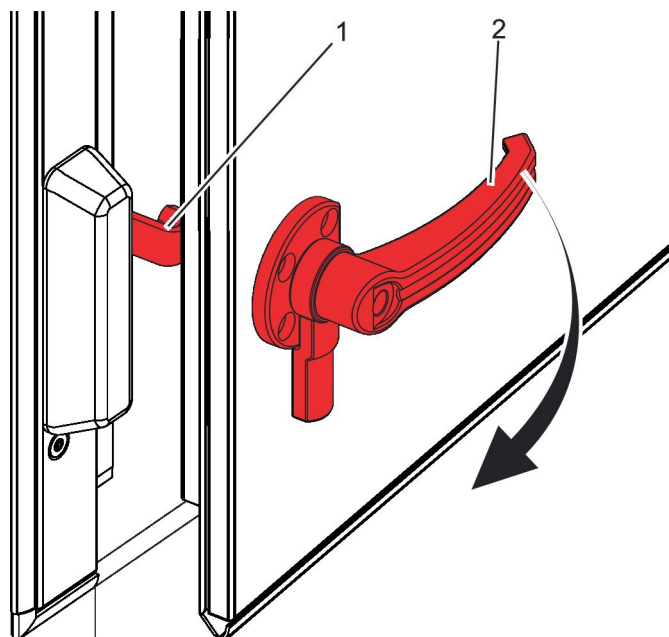

Fig. 19: Releasing the safety catch
3. ▶ Turn the door handle (Fig. 19 /2) clockwise by 90° .
⇒ This releases the safety catch (Fig. 19 /1); the inspection access door can now be completely opened.